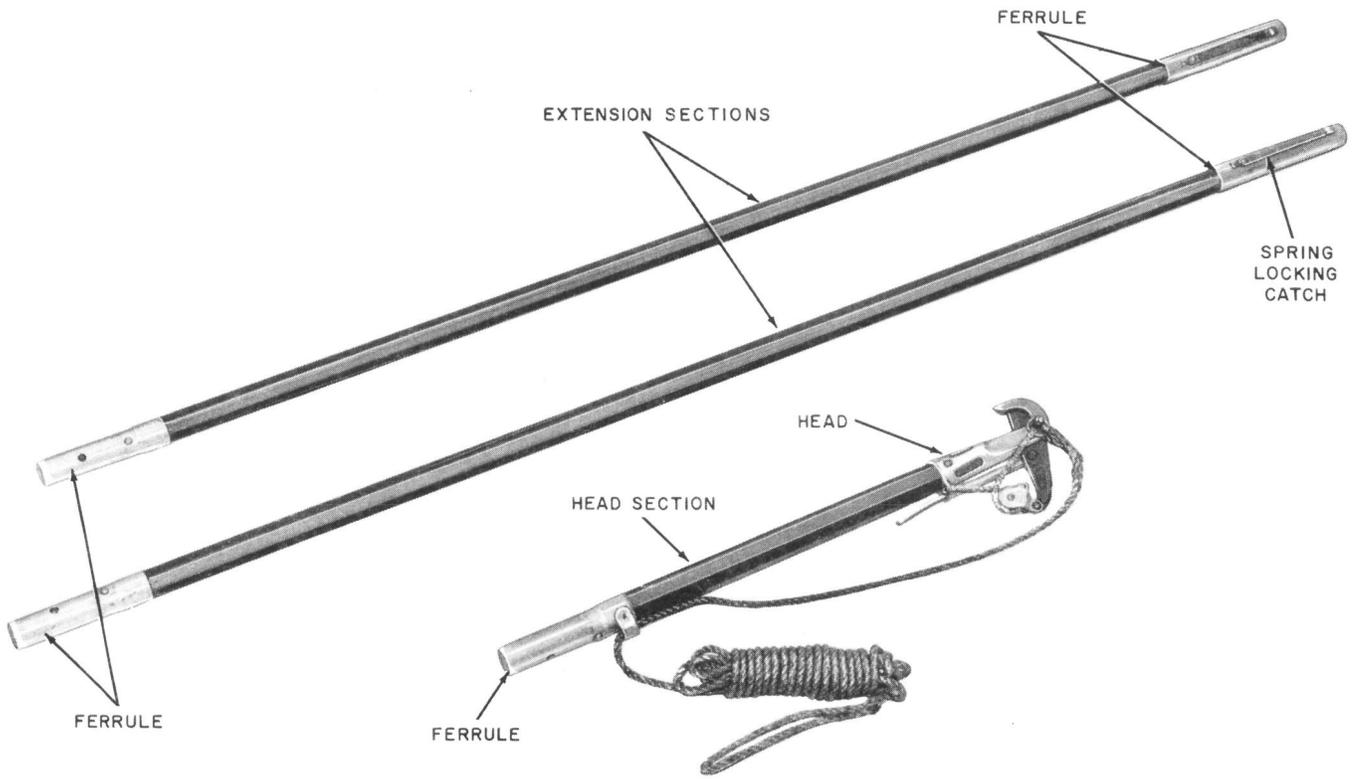

Fig. 3—B Tree Pruner With Handle Sections
2.07 The tree pruner handles are provided in two sizes, designated as small and large. Each size handle consists of a head section and one or more extension sections. The sections are made of octagonal shafts of light wood and are equipped with telescoping ferrule connectors, the female ferrule being a spring actuated locking pin. See Fig. 3 and 4. The head section usually used with tree pruners is approximately 2 feet long, although one approximately 5-3/4 feet long is available. Each extension section is approximately 6 feet long. Also, a tapered section approximately 5-3/4 feet long is available which permits joining tools and small sections to large sections on a composite handle. The small handle sections are 1-1/4 inches across flats of the octagon and the large handle sections are 1-3/4 inches.